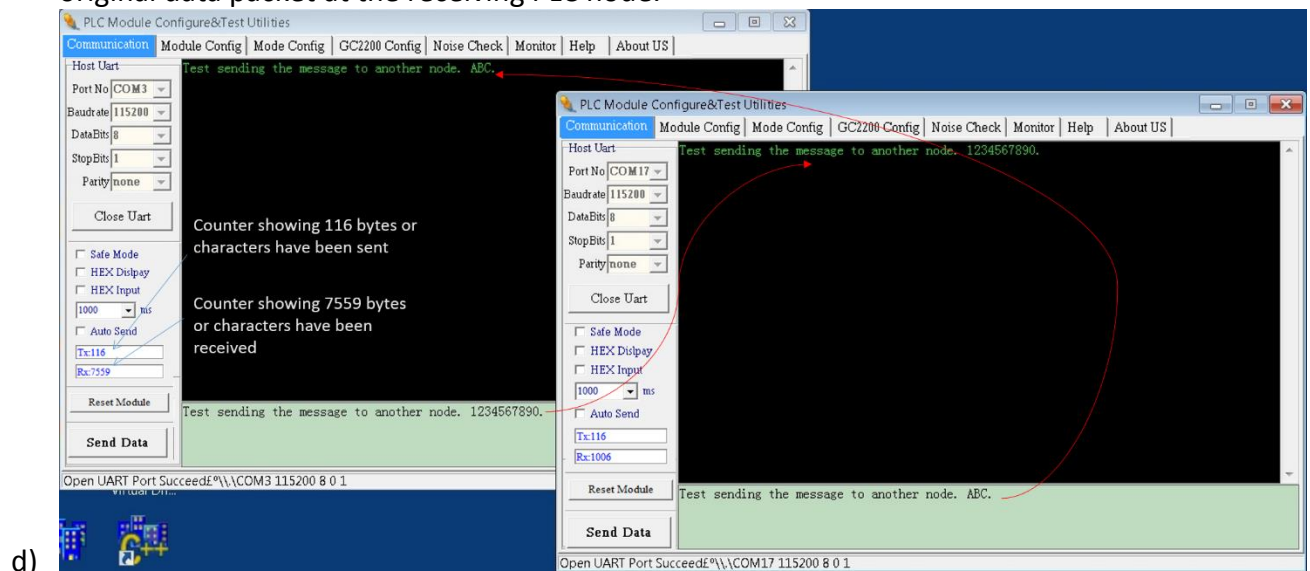

Figure 15 – PLC Device Point-to-Point Communications Demo
- g) In Figure 15, once the basic configurations are set as in “Demo & Evaluation of Simple Broadcast Communications” section in page 21 from 4.1.a to 4.1.c, you may input any data in the bottom green window under the “Communication” tab. The data can be in character (default) or HEX form (check HEX Display and HEX Input). Enter a message in the green box. The message will be sent to the other device as shown in the other GUI after clicking “Send Data”. The standard data byte length per data packet is 42 bytes. It is highly recommended to use smaller data packets if possible, because longer data packets may have a higher chance of “packet loss” during transmission. When sending long data packets exceeding 42 bytes up to 512 bytes, such as in ModBus, the device firmware will automatically break the long packet into multiple packets of up to 42 bytes without user intervention. These packets will then be reassembled to form the original data packet at the receiving PLC node.